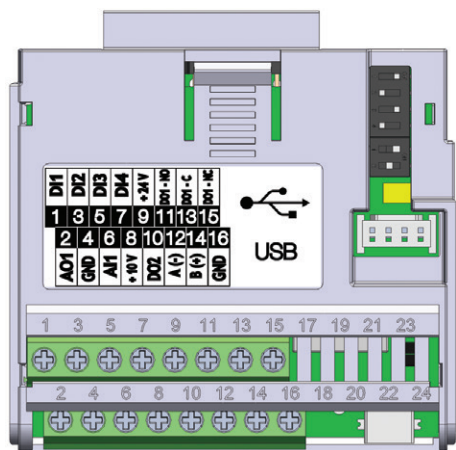

Figure 18.3: Plug-in module CFW500-CUSB
The CFW500-CUSB plug-in module has Serial (1) interface through RS-485 port at terminals 12 (A-) and 14 (B+), as well as the Serial (2) interface through USB port at standard connector mini USB (mini B), see Figure 18.3 on page 18-1.